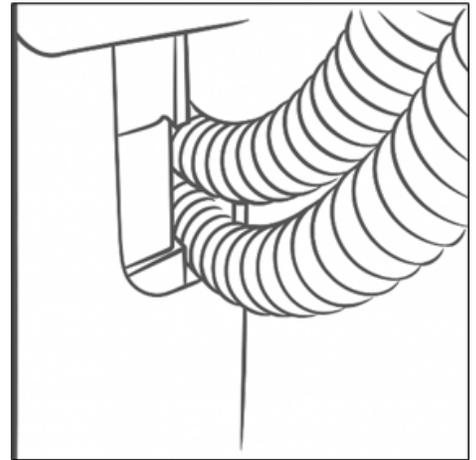

Figure 9 - Cables Behind Frame
2. Route the power cord and control switch cables behind the power unit frame (refer to Figure 9).